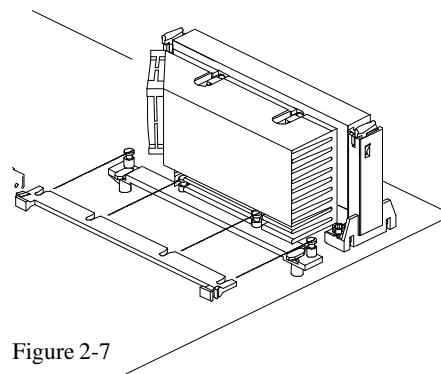

Figure 2-7
4. Insert the Pentium II into the RM firmly (Please refer to "Install Pentium II processor" section), Slide the Heat Sink Top Bar (HSSTOP) on the supports forward to clip onto the HSSBASE through the fins of Heat Sink. (Refer to Figure 2-7)